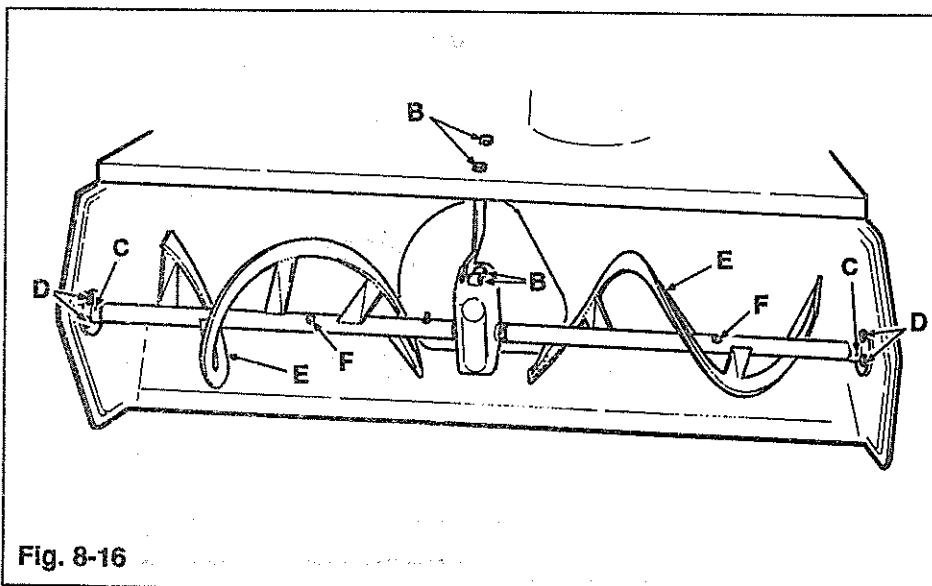

Fig. 8-16
8. Remove screws securing gearbox support to housing (B, Fig. 8-16) and gearbox.
9. Loosen set screws on ends of auger bearing collars (C). Remove screws securing bearings (D). Slide Collars
12. Remove shear pins (F, Fig. 8-16) from augers. Mark augers with masking tape and label them left and right to aid in re-assembly. **IMPORTANT! IF AUGERS ARE ASSEMBLED INCORRECTLY, THE UNIT WILL NOT OPERATE PROPERLY!**